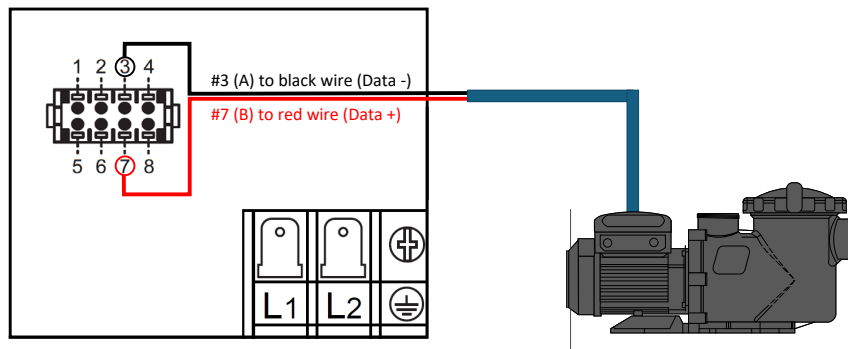

Figure 39. Variable Speed Pump Wiring
- The variable-speed pump RS-485 cable is connected to the heat pump as shown in **Figure 39**.